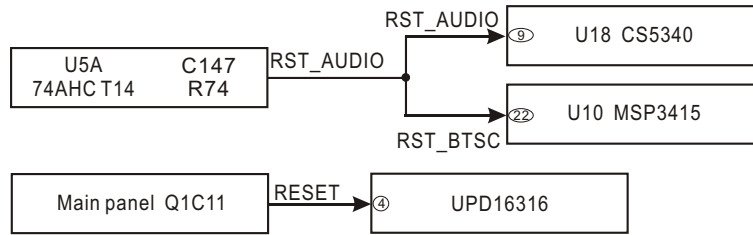

Figure 3.2.6.1 Reset circuit diagram
1. Reset circuit diagram is shown in the figure 3.2.6.1: